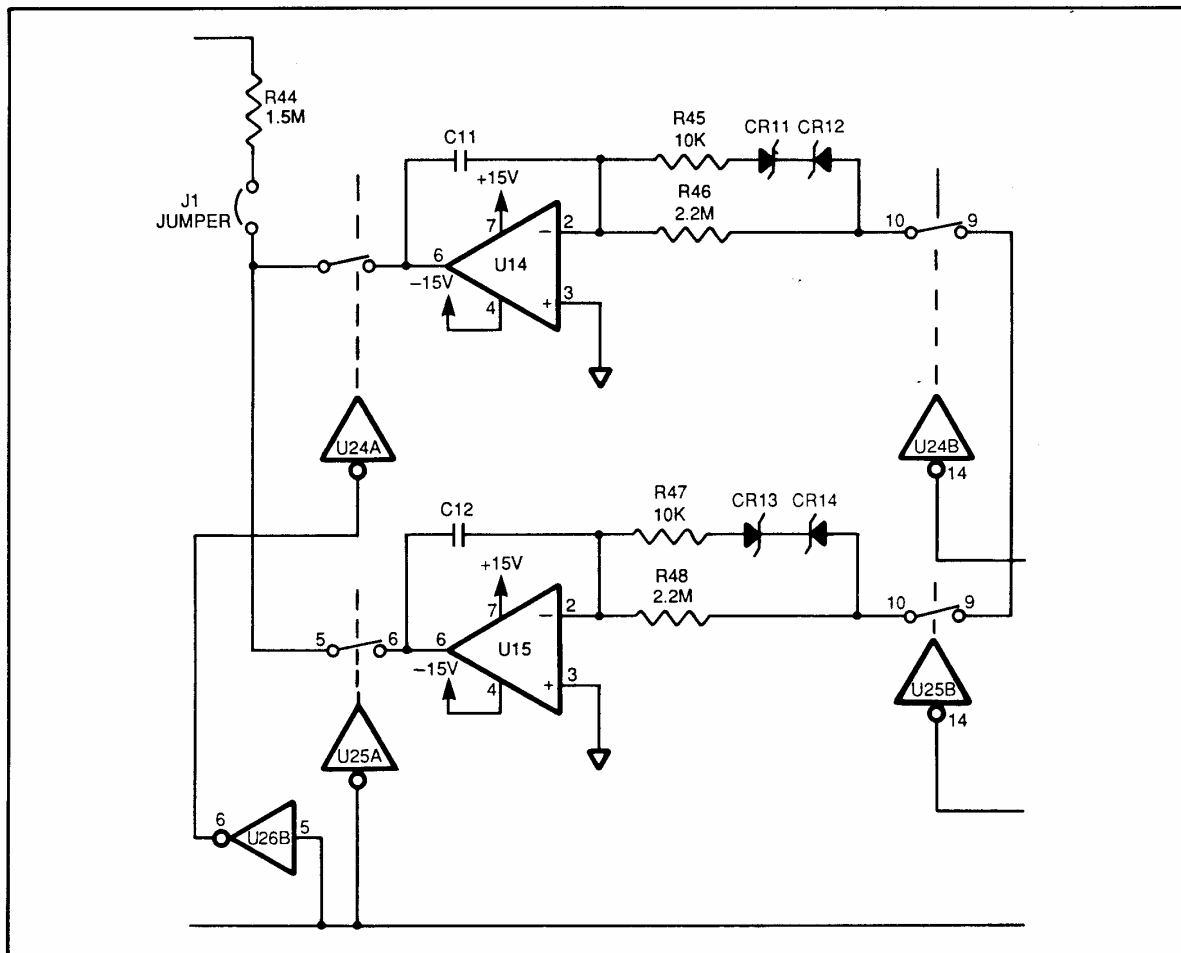

Figure 8-31. Integrating Circuitry
- d. Integrating Circuits. An integrating circuit is the basis of each autozero circuit. The following discussion describes only the Channel A zeroing action since both integrating circuits are identical. Figure 8-31 shows the essential elements of this circuitry.